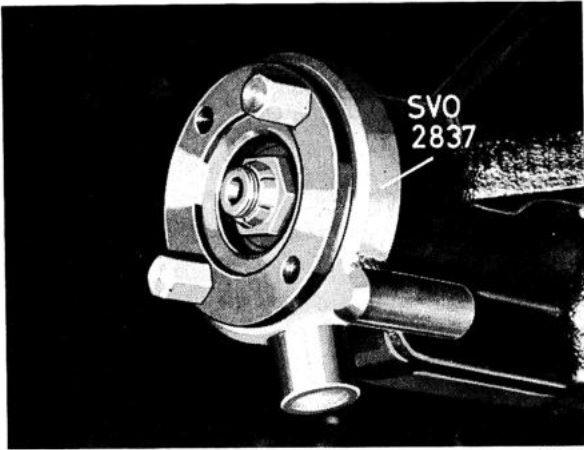
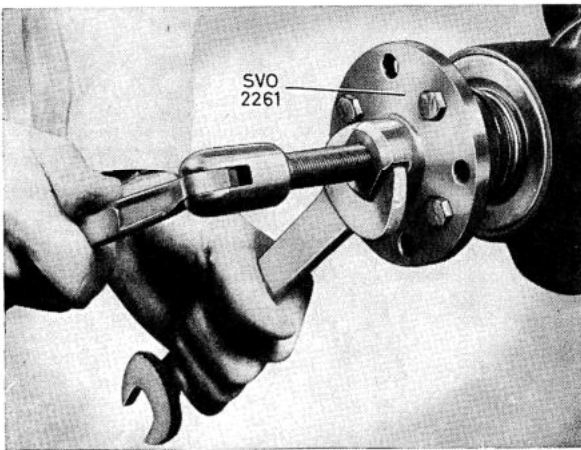

Fig. 4-137. Counterhold for flange
Fig. 4-138. Removing the flange
2. Remove the nut for the flange. Use for this purpose tool SVO 2837, see Fig. 4-137. Pull the flange off with puller SVO 2261, see Fig. 4-138. Pull out the old oil seal with puller SVO 4030.
7. Turn the final drive and let the oil run out into a container. Use tool SVO 2837 as a counterhold for this purpose, see Fig. 4-137. Pull off the flange with puller SVO 2261, see Fig. 4-138. Press out the pinion.